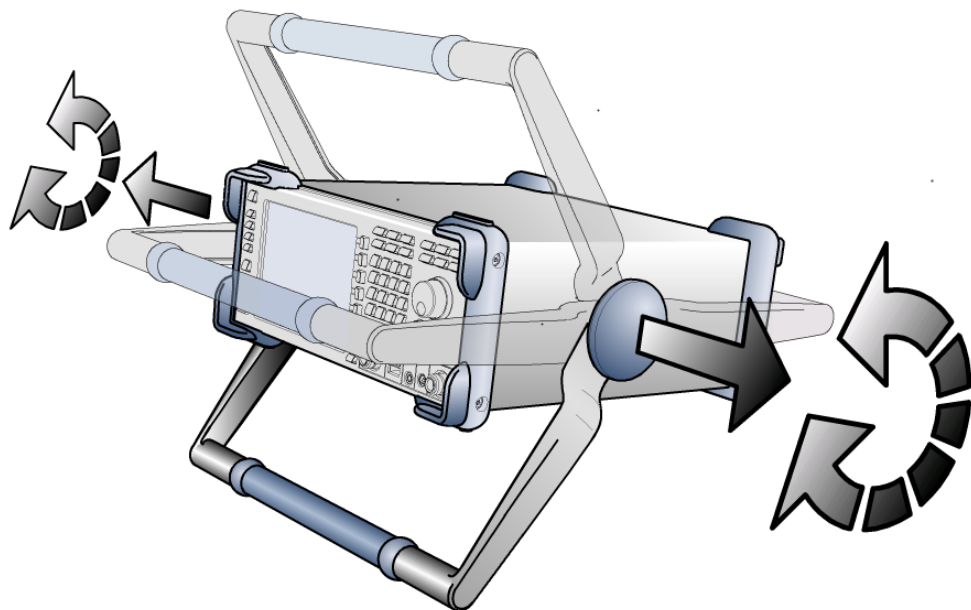

Figure 4-1: Moving the handle of the R&S ETL
1. Pull at both side knobs and turn the handle as shown in Figure 4-1.